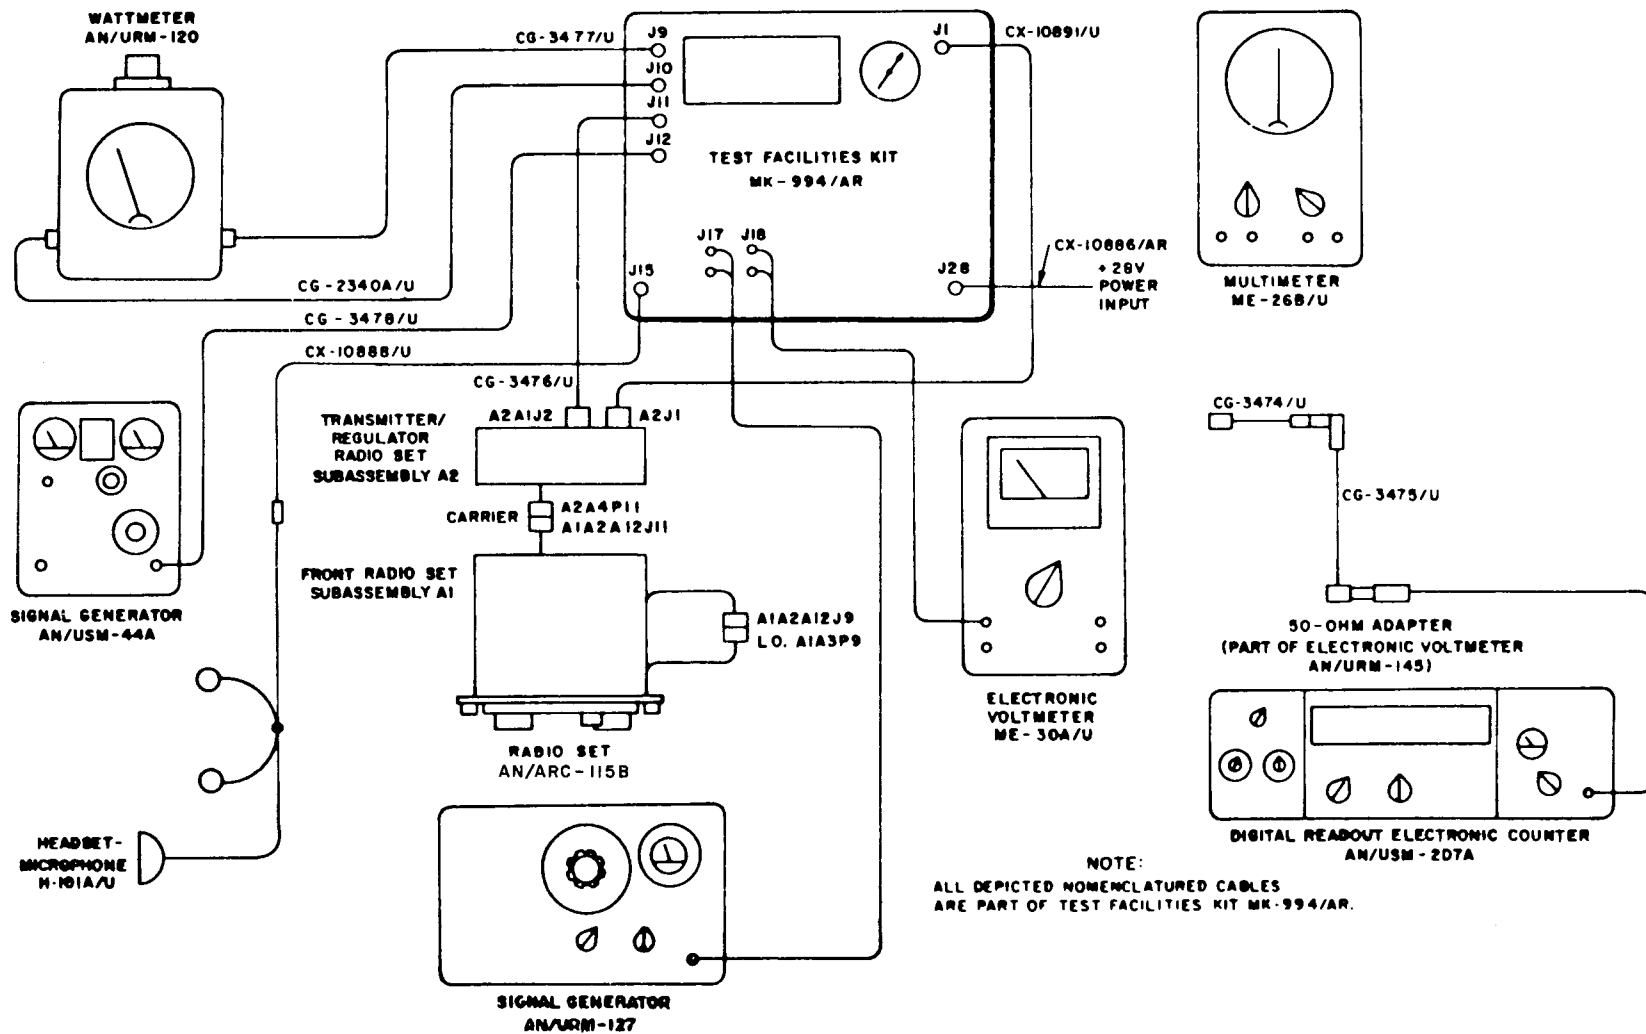

Figure 2. Radio Set Test Setup Diagram
- (1) Mate the transmitter/regulator radio set subassembly A2 to the radio set.
- (2) Connect the test equipment as shown in figure 2.
- (3) Adjust the dc power input to J28 on the test facility kit to 28 Vdc \pm 0.5.
- (4) Perform the test procedures given in table 1.